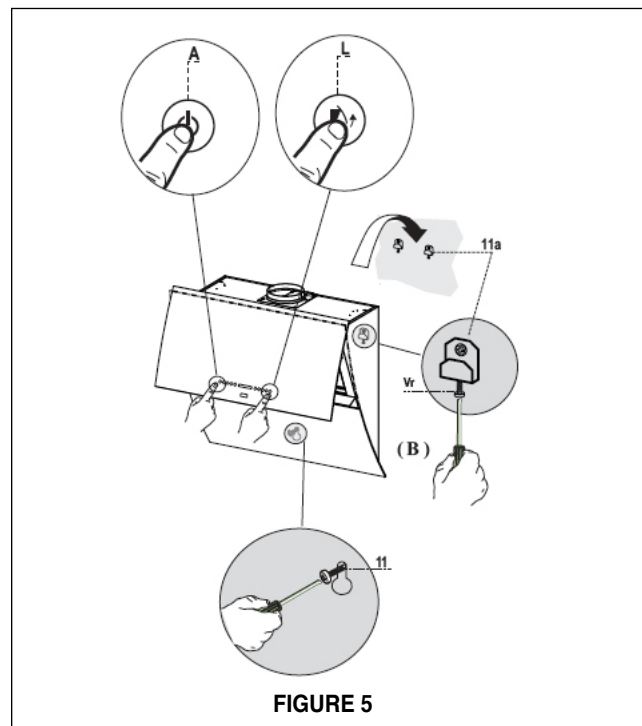

FIGURE 5
1. Adjust the two screws on the mounting hardware (**B** in **FIGURE 5**) to the lowest point
5. From the inside of the hood, adjust the mounting screws to make the hood level (**B** in **FIGURE 5**). Install safety screws (**11** in **FIGURE 5**) and reinstall the grease filters and close the upper panel